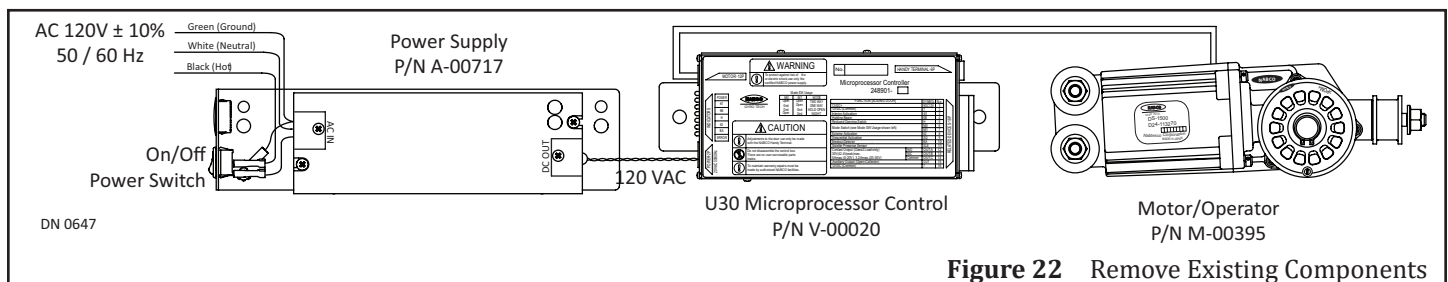

Figure 22 Remove Existing Components
11. Obtain (2) small Jumper Wires (Brown and Red) from the Harness Bag located inside the Retrofit Kit.
13. Wire the Optex Holding Beam Controller according to the Type shown in Figure 22. Please refer to P/N C-00139 "Opus Wiring and Programming" manual for more detailed information.
15. Go to the Back of the Rocker Switch. Locate the (5) colored wire Connector. Plug the Rocker Switch Harness to the Connector by matching the colored wires (orange to orange, green to green, etc).